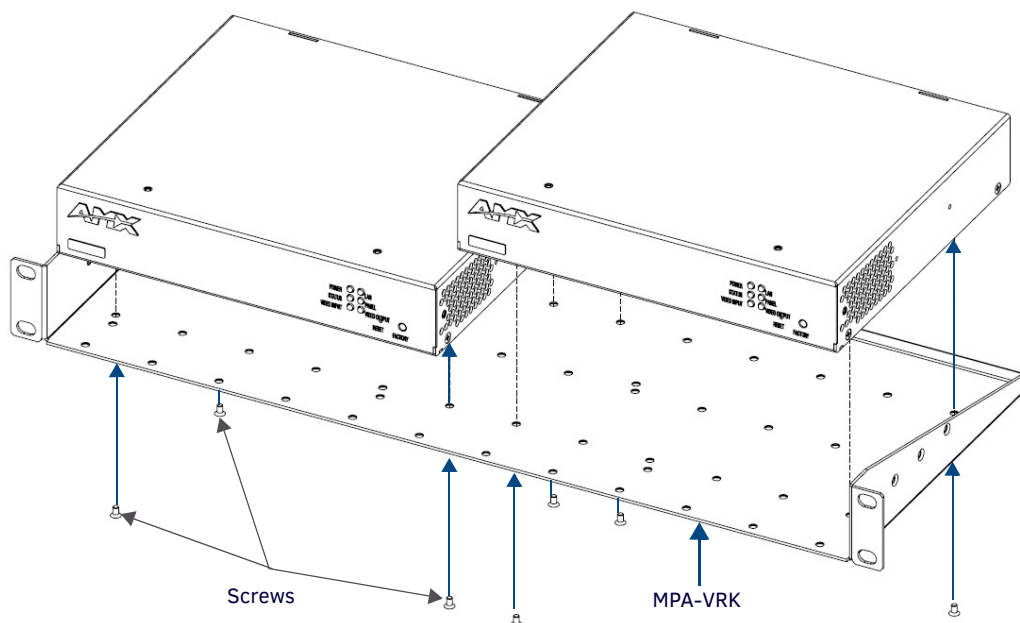

FIG. 7 Installing two MXA-MP devices in a Rack Mounting Tray
1. Select a position on the Rack Mounting Tray for the installation. The Rack Mounting Tray contains screw holes to allow single or double device installations (FIG. 7).